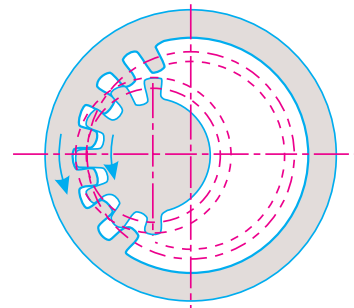

Fig. 34.4. Internal gearing.
2. **Internal gears.** Sometimes, the gear of the two shafts mesh *internally* with each other as shown in Fig. 34.4. Such a type of gear is called *internal gearing*. The larger of these two wheels is called annula wheel and the smaller one is called pinion.